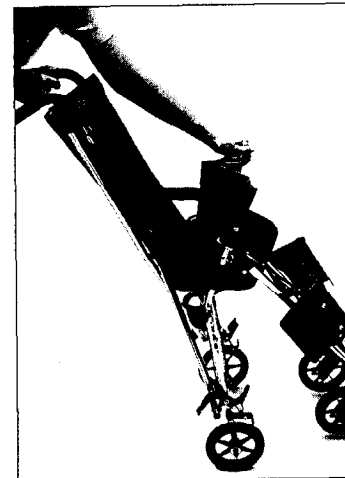

Fig.94
2. Swing footrests to the side, grasp one handle and pull in the center of the seat fabric or seat tube with other hand. **Fig.94**